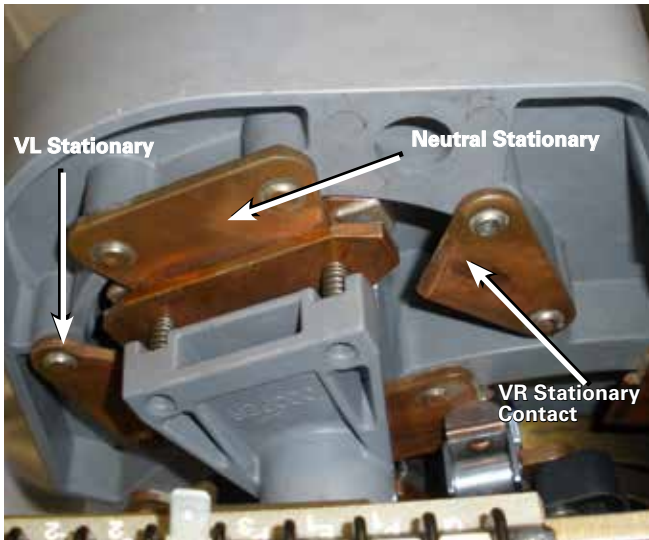

Figure 2. Reversing stationary contact.
1. Each QD5 tap-changer has one VR reversing stationary contact. Note that in the photo, the nylon separating bar has been removed. It is not necessary to remove the bar to perform these steps. See Figure 2.